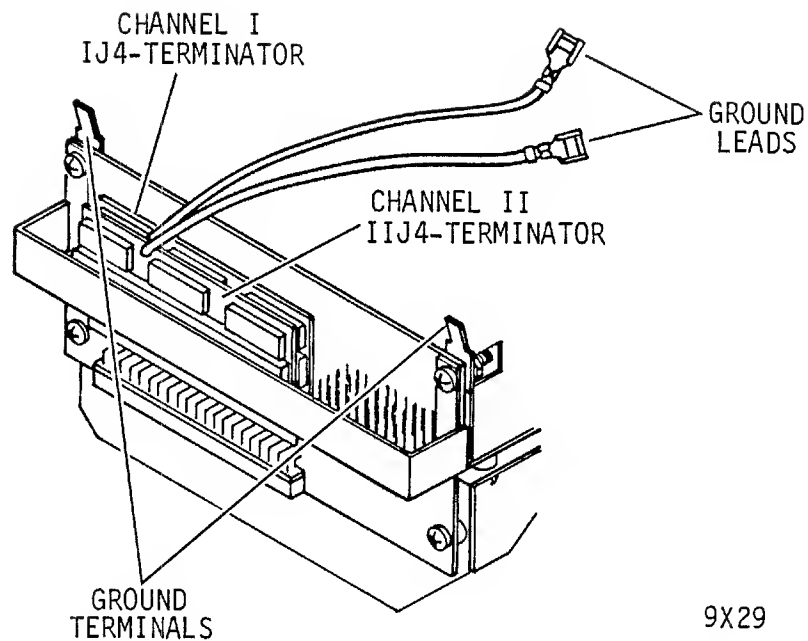

Figure 1-17. Terminator Assembly
3. Install terminator on drive connector IJ4 and make terminal ground connection (see figure 1-17). For dual channel drives, install a second terminator on drive connector IIJ4.
6. Install terminator on drive connector IJ4 and make terminal ground connection (see figure 1-17). For dual channel drives install a second terminator on drive connector IIJ4.